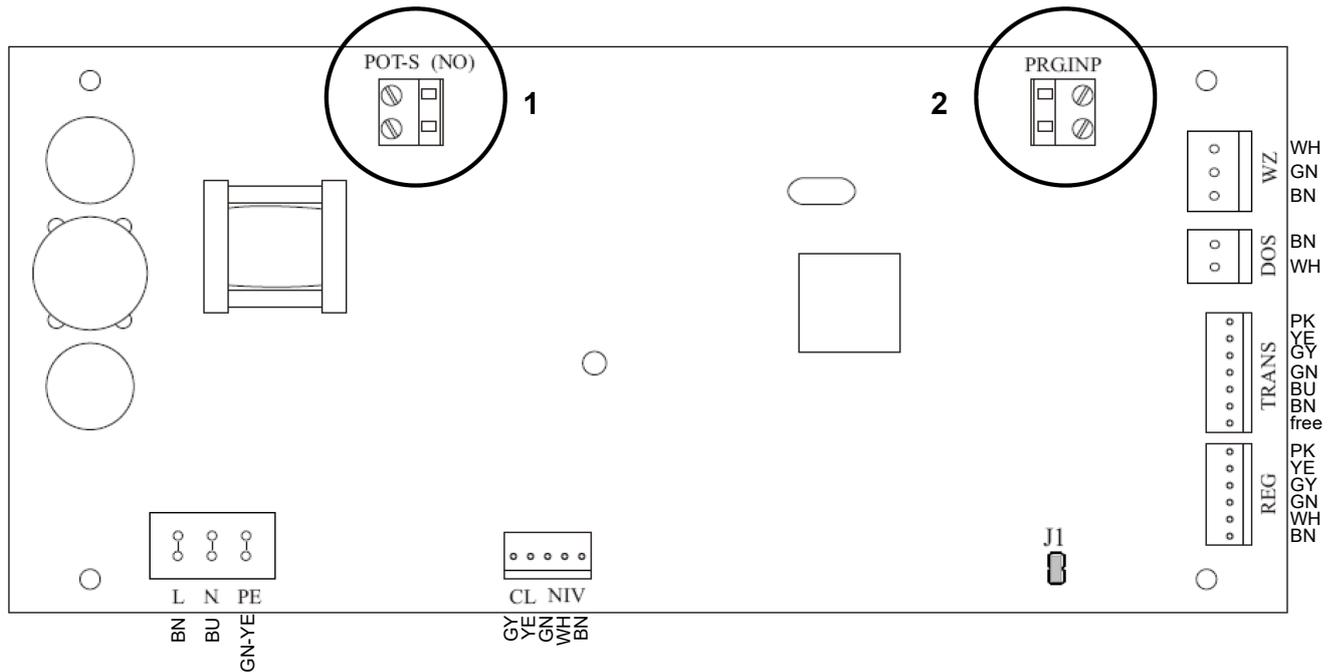

Fig. D-5: Terminal diagram for Weichwassermeister GSX
For the optimum adjustment of the operating mode, a programmable output is available at the control unit (voltage-free contact/switching capacity 230 V~ 1 A, Fig. D-5, item 1) as well as a programmable input (for connection to a voltage-free contact, Fig. D-5, item 2). For a detailed description of the available functions, refer to chapter F, paragraph 3.2.